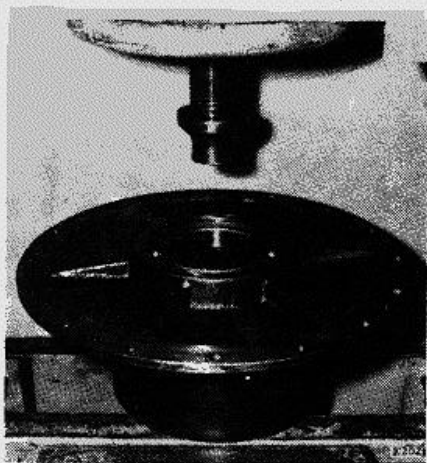

FIGURE 8-12
p. Turn the drum hub over and place it in an arbor press. Using an appropriate size pusher, press out the large bearing (see figure 8-12).